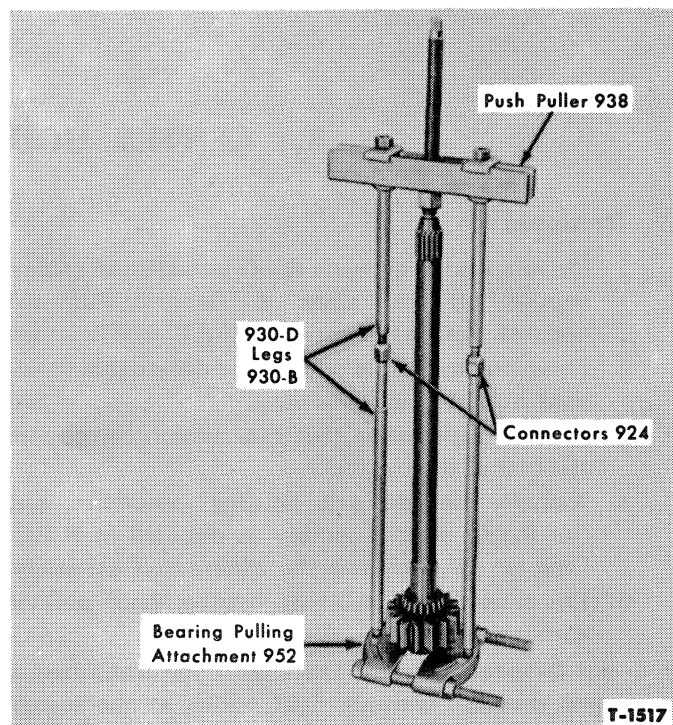

Figure 20—Installing Upper Shaft Outer Bearing
4. Press the new outer bearing on the shaft, Figure 20. Apply force to the inner race only.